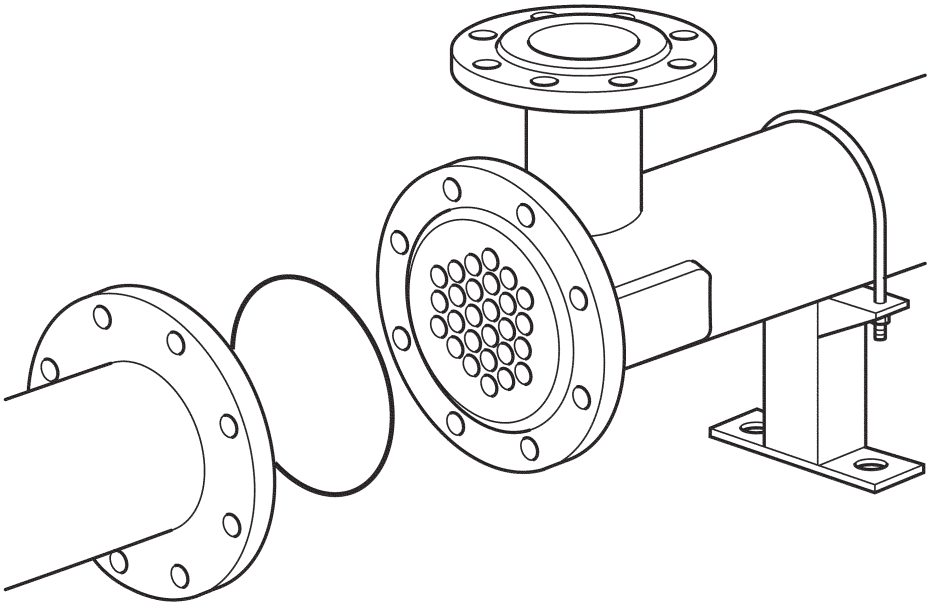

Fig. 12
- replace the gaskets with new ones as indicated in Fig. 12.